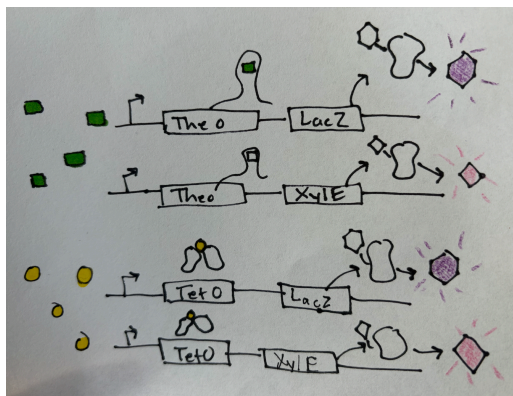

Figure 1. Multiple sensor and reporter combinations will be used to produce a unique colorimetric enzyme for each ligand :::
- **Describe how the Module works Figure 1, its mechanism, and how the components relate to each other**